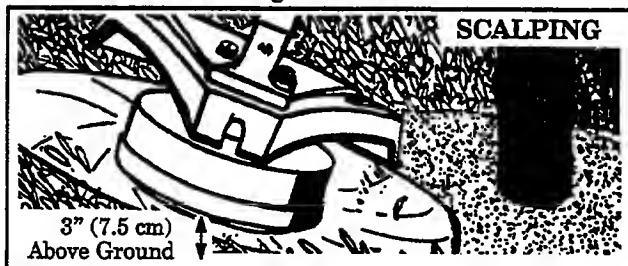

Figure 12
- SCALPING** – Figure 12 . The scalping technique removes unwanted vegetation. Hold the bottom of the trimmer head about 3" (7.5 cm) above the ground and at an angle. Allow the tip of the line to strike ground around trees, posts, monuments, etc. *This technique increases line wear.*